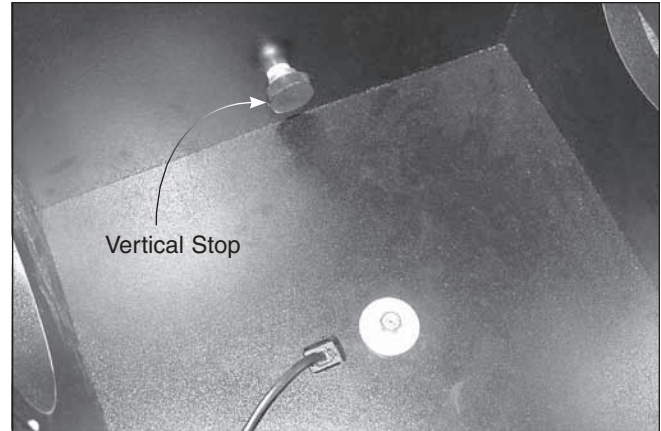

Figure 14. Thread the vertical stop, with washers attached, into the threaded insert in the front brace.
vertical stop screw. Thread the vertical stop knob into the threaded insert on the inside of the front brace (B) until tight (Figure 14). The position of the vertical stop is adjusted by adding or removing washers, this is why extra thick and thin washers are included. Adjusting the vertical stop is required when using the IntelliScope Object Locator, since the optical tube must be precisely vertical during the initial alignment procedure. The manual included with the IntelliScope Object Locator kit will detail the procedure for adjusting the vertical stop; once the vertical stop is properly adjusted, it should not need to be adjusted again.